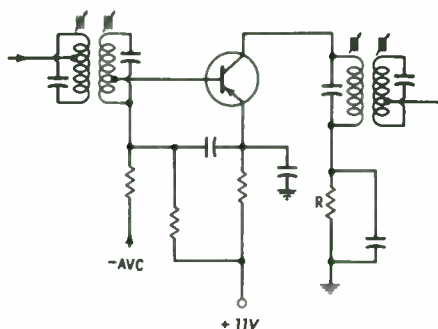

Figure 11 — Reverse AVC circuit.
An AVC circuit that might seem unusual will pop up now and then in transistor radios. At first glance it seems that the polarity of the AVC voltage is reversed, and indeed it is to the conventional AVC circuit. In Figure 11 a PNP transistor is used; with conventional circuits the polarity of the AVC would have to be positive in order to reduce the gain of the circuit by the reduction of the bias and the collector current. This positive bias counteracts the normal negative bias of a PNP transistor. In Figure 11 the AVC voltage is negative and increases in a negative direction with more signal. This seems to increase the gain of the transistor rather than reduce it as required for proper AVC action. To understand how this circuit can work,
typical transistor. Note that once the bias rises so high, an increase in bias does not increase the gain of the stage; if we increase the bias far enough and the circuit parameters are right, the gain will decrease. This decrease can be used for AVC action. Notice in Figure 11 that a resistor (R) is in series with the collector circuit. This resistor is the secret of reverse-bias AVC. As the bias increases, the current through the transistor increases,